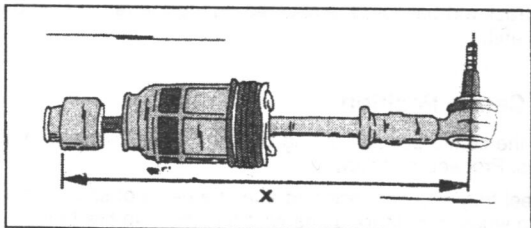

Fig. 6.5. — Before fitting the steering set the track rods to a length of 322.0 mm (dimension "X").
mension "x" in Fig. 6.5. Correct the position of the end piece of the dimension is not exactly 322.0 mm. Tighten the locknut to 6.0 kgm (43.5 ft.lb.). Even if only one track rod end has been replaced or has been unscrewed, set the rod
- Fit the track rod ball joint the same number of turns and measure the length of the track rod as shown in Fig. 6.5. Make the necessary corrections.